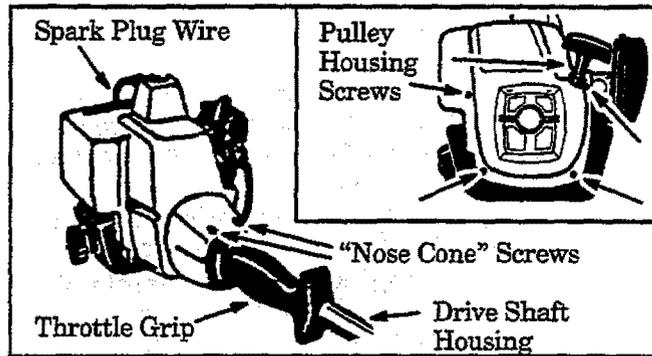

Figure 25
1. Disconnect spark plug wire. Figure 25 .
2. Loosen the nose cone screws. Figure 25 .
6. Remove the five pulley housing screws (four on the front, one by the spark plug) with the small hex wrench provided. Figure 25 (inset).